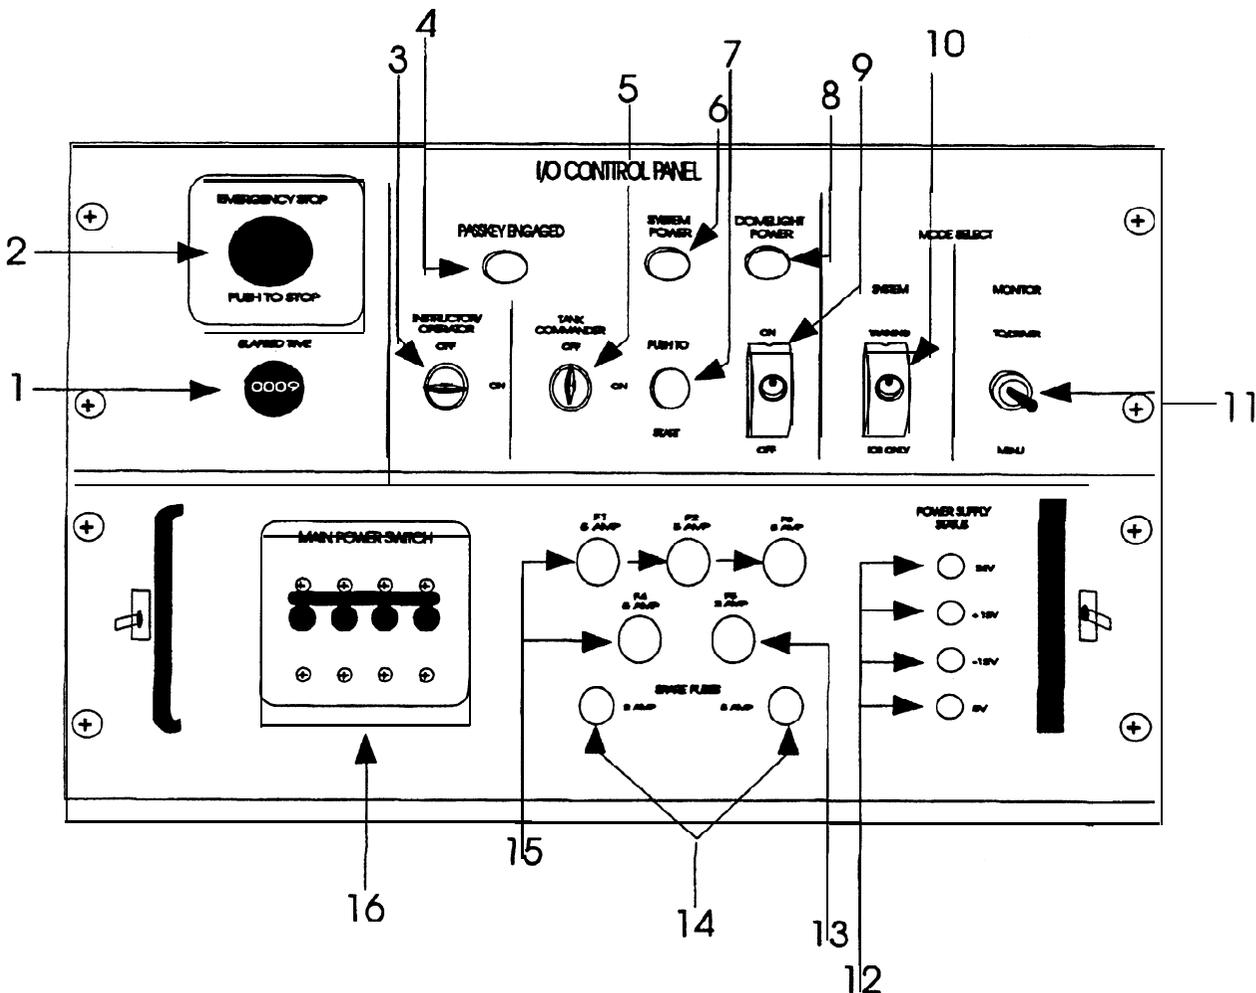
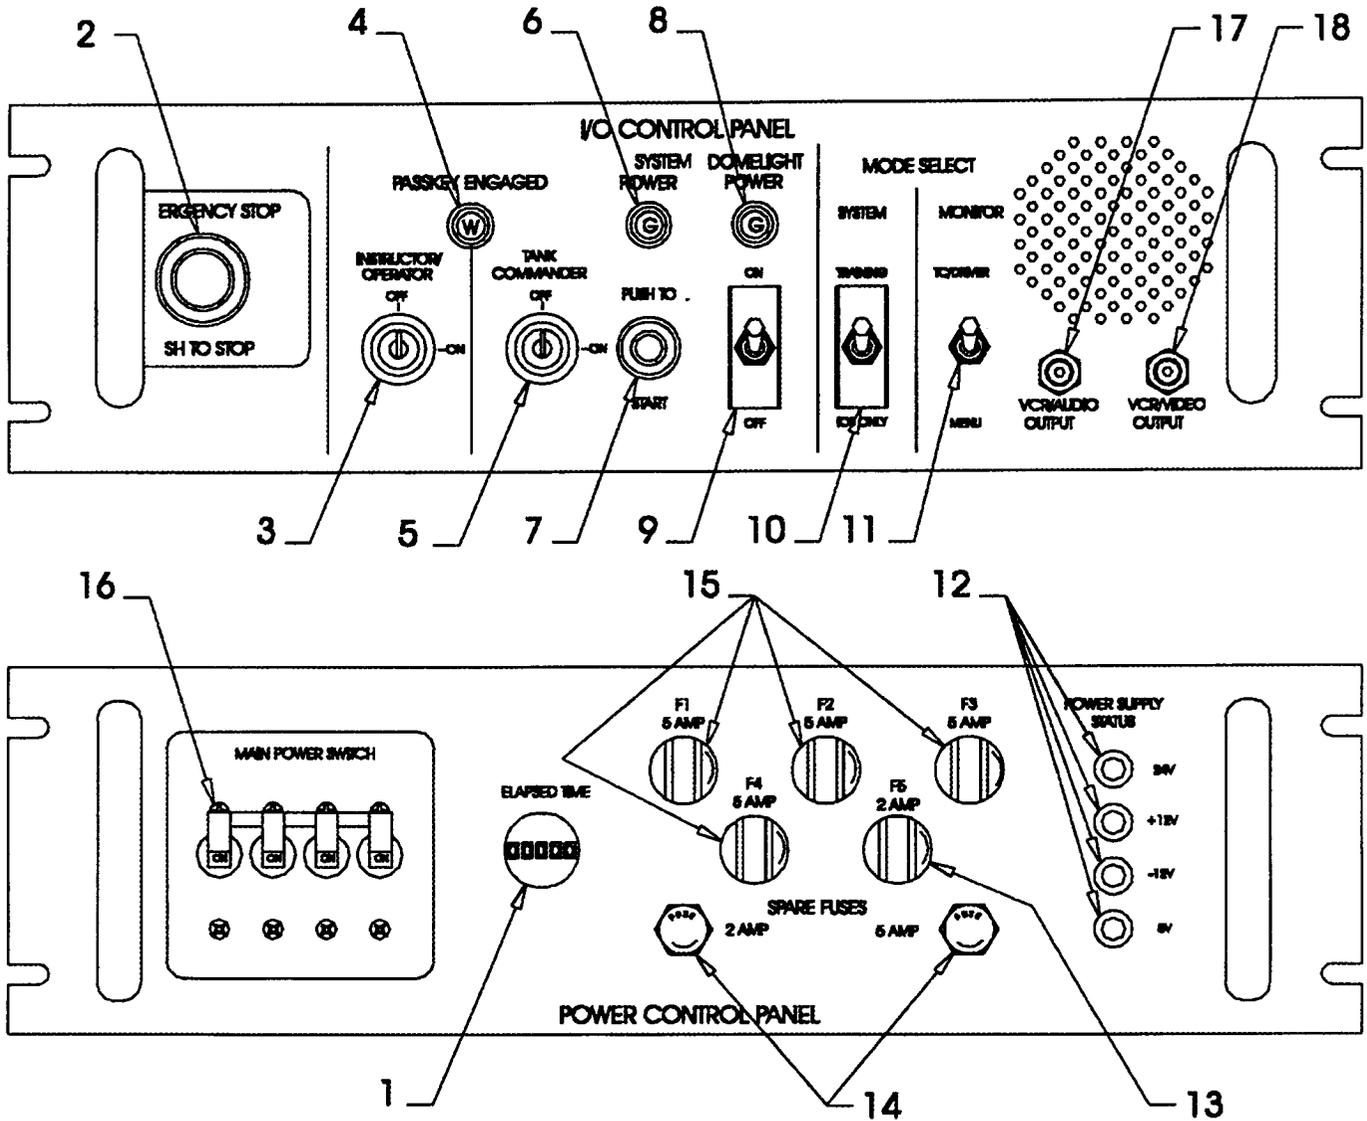

Figure 2-1. I/O Control Panel (TD 17/162A)
Figure 2-1a. I/O Control Panel (TD 17/162B)
2.1.1 Instructor/Operator (I/O) Control Panel. The following controls and indicators are on the I/O Control Panels, shown in Figure 2-1 and Figure 2-1a (Note that for Training Device 17/162B, the I/O Control Panel is split into an upper and lower chassis).